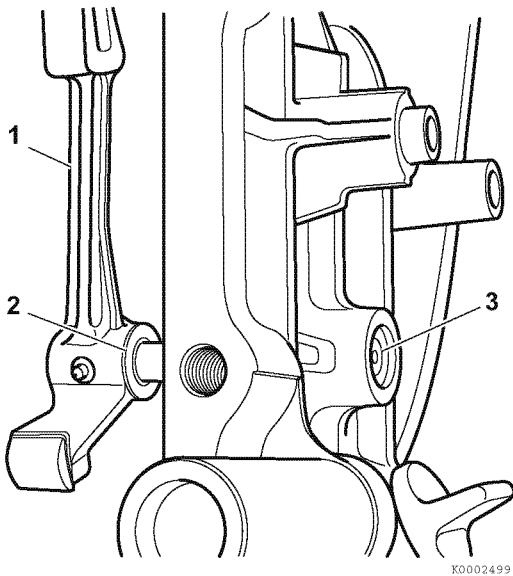

Figure 6-82
5. Remove the throttle shaft and governor arm assembly (1, **Figure 6-82**) along with the washer (2, **Figure 6-82**).
- Carefully pry the seal (3, **Figure 6-82**) out of the bore.